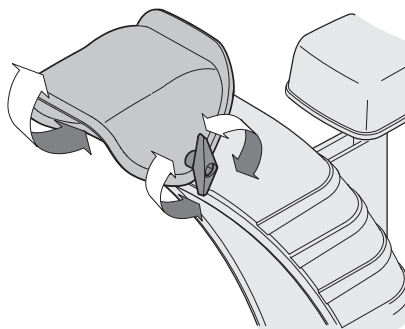

Figure 2-51
1. Loosen wing knob found on left side of chute assembly. See Figure 2-51.